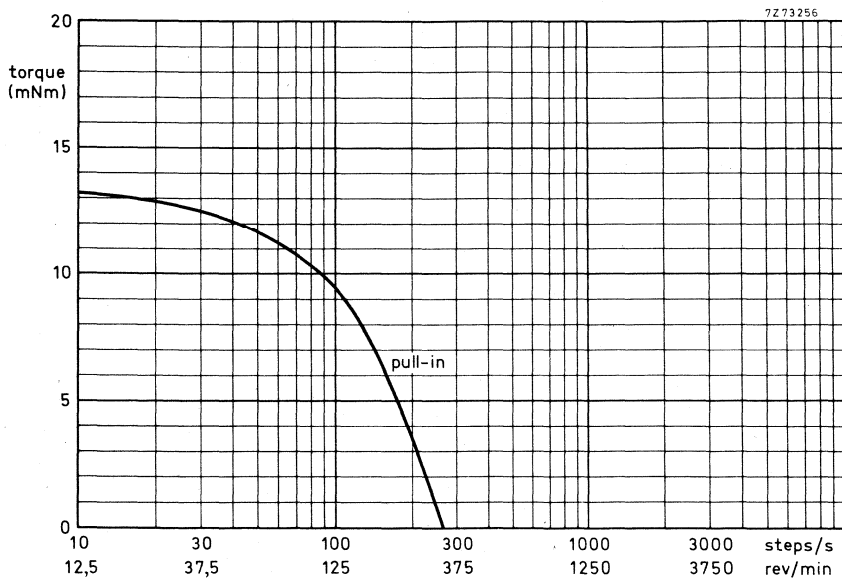

Fig. 2 Torque versus stepping rate, measured at room temperature
2) When driven by electronic switch 9904 131 03003 with RC network (see General section, Fig. 2.  $R_V = 22 \Omega$ ;  $C_V = 27 \mu F$ ;  $V_B = 12 V$  d. c.;  $R_S = (V_B - 5)/0,230 \Omega$ ).